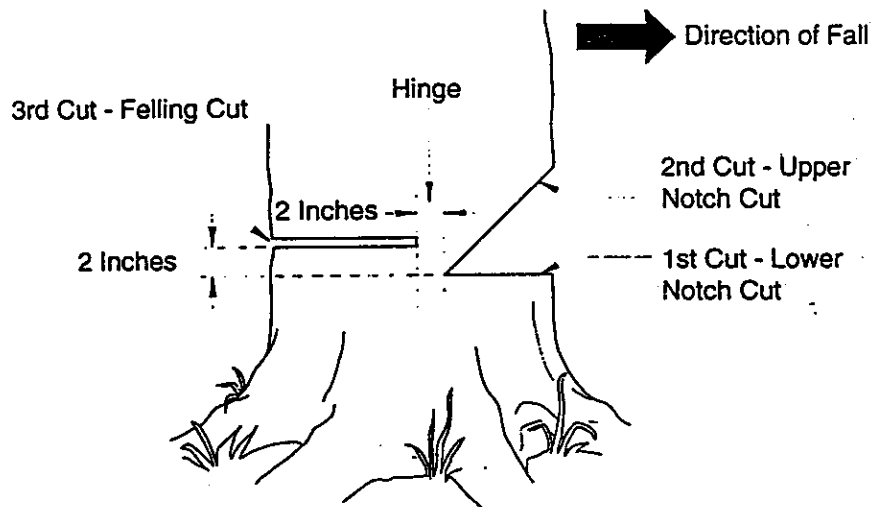

Figure 13 - Felling A Tree
A properly placed felling notch will determine direction tree will fall. Place felling notch on side of tree in direction you want tree to fall (see Figure 13, page 16). Follow directions on page 16 to create a felling notch.
1. Make lower notch cut as close to ground as possible. Hold saw so guide bar is horizontal. Cut 1/3 the diameter of tree trunk (see Figure 13). *Note:* Always make this horizontal lower notch cut first. If you make this cut second, tree can pinch chain or guide bar.
2. Start upper notch cut the same distance above first cut as first cut is deep. *Example:* If lower notch cut is eight inches deep, start upper notch cut eight inches above it. Cut downward at 45° angle. The upper notch cut should meet end of lower notch cut (see Figure 13).
1. Make felling cut two inches higher than lower notch cut and on opposite side of tree (see Figure 13). Keep felling cut parallel to lower notch cut.
Do not cut all the way through tree. Leave about two inches of tree diameter uncut directly behind felling notch (see Figure 13). This uncut portion acts as a hinge. The hinge helps keep tree from twisting and falling in wrong direction.